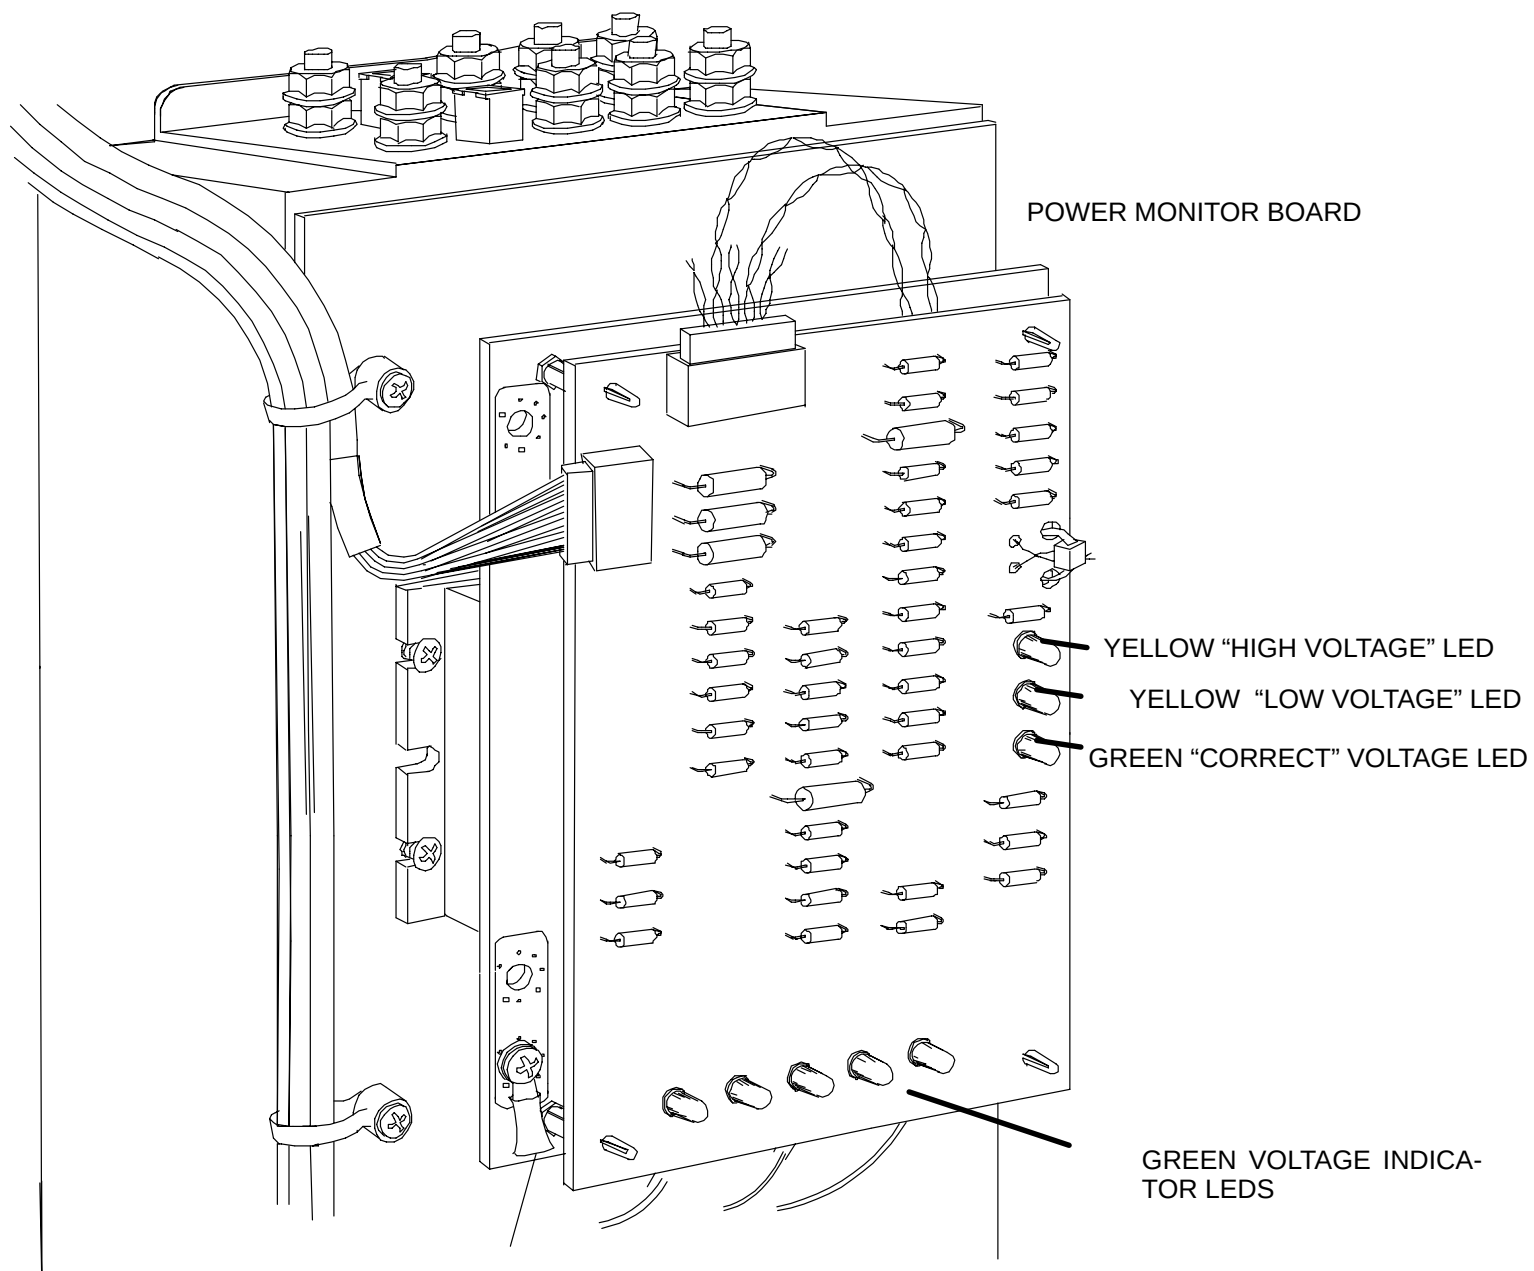

FIGURE 41 POWER MONITOR BOARD
- Check the Power Monitor board indicators at the right rear of the gantry (All 6 green indicators should be ON and the green DC OK LED on the AC Control Panel should be ON. If a condition other than this exists, check Wall Power Supply connections and the card file 5-output DC power supply. Refer to Figure 41 for locations.